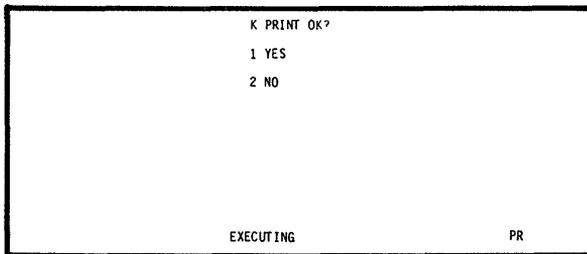

Fig. 14.26
- 1 : As shown in Fig. 14.26, "EXECUTING" message is displayed and execution is initiated.
By pressing the **GO** key, the screen returns to the display shown in Fig. 14.26 and execution is resumed.